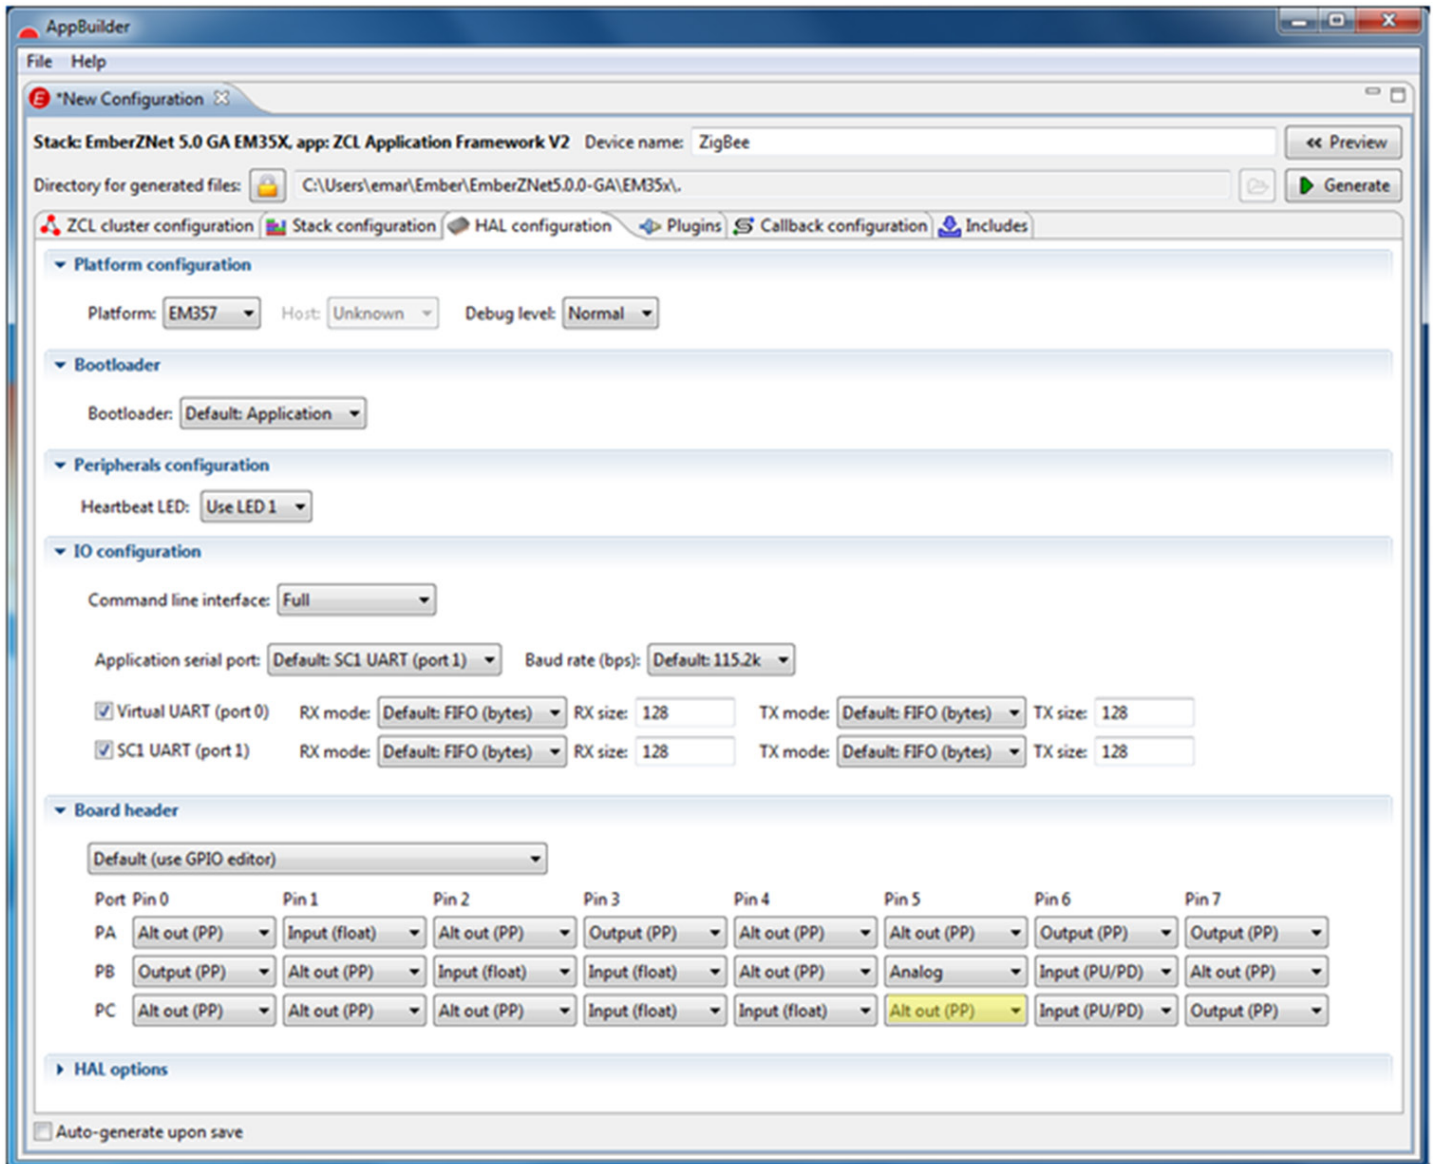

Figure 2. ZICM35xSP2 GPIO Configuration
For the ZICM35xSP2-1x Module, PC5 should be set to *Alt out (PP)*. See Figure 2 below. Internally within the module, it serves as the logic-level control for the PA. PC5 is not connected to any module castellation pin.